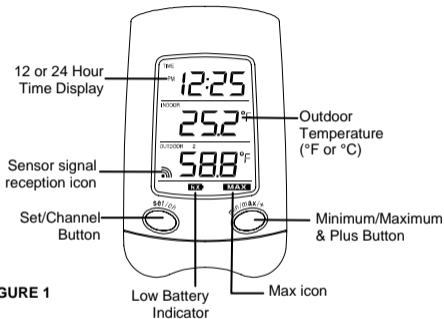

FIGURE 1
1. Wireless Temperature Station (Figure 1)